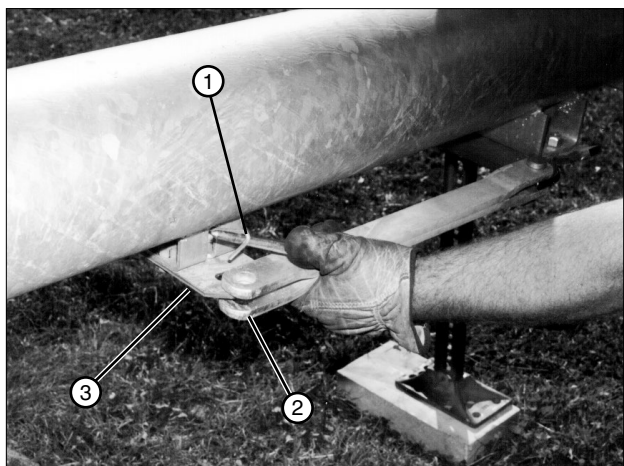

Figure 26-3 1. Carrier Spring
- Lift the carrier spring and release the tow link bar from the tow link carrier. See figure 26-3.